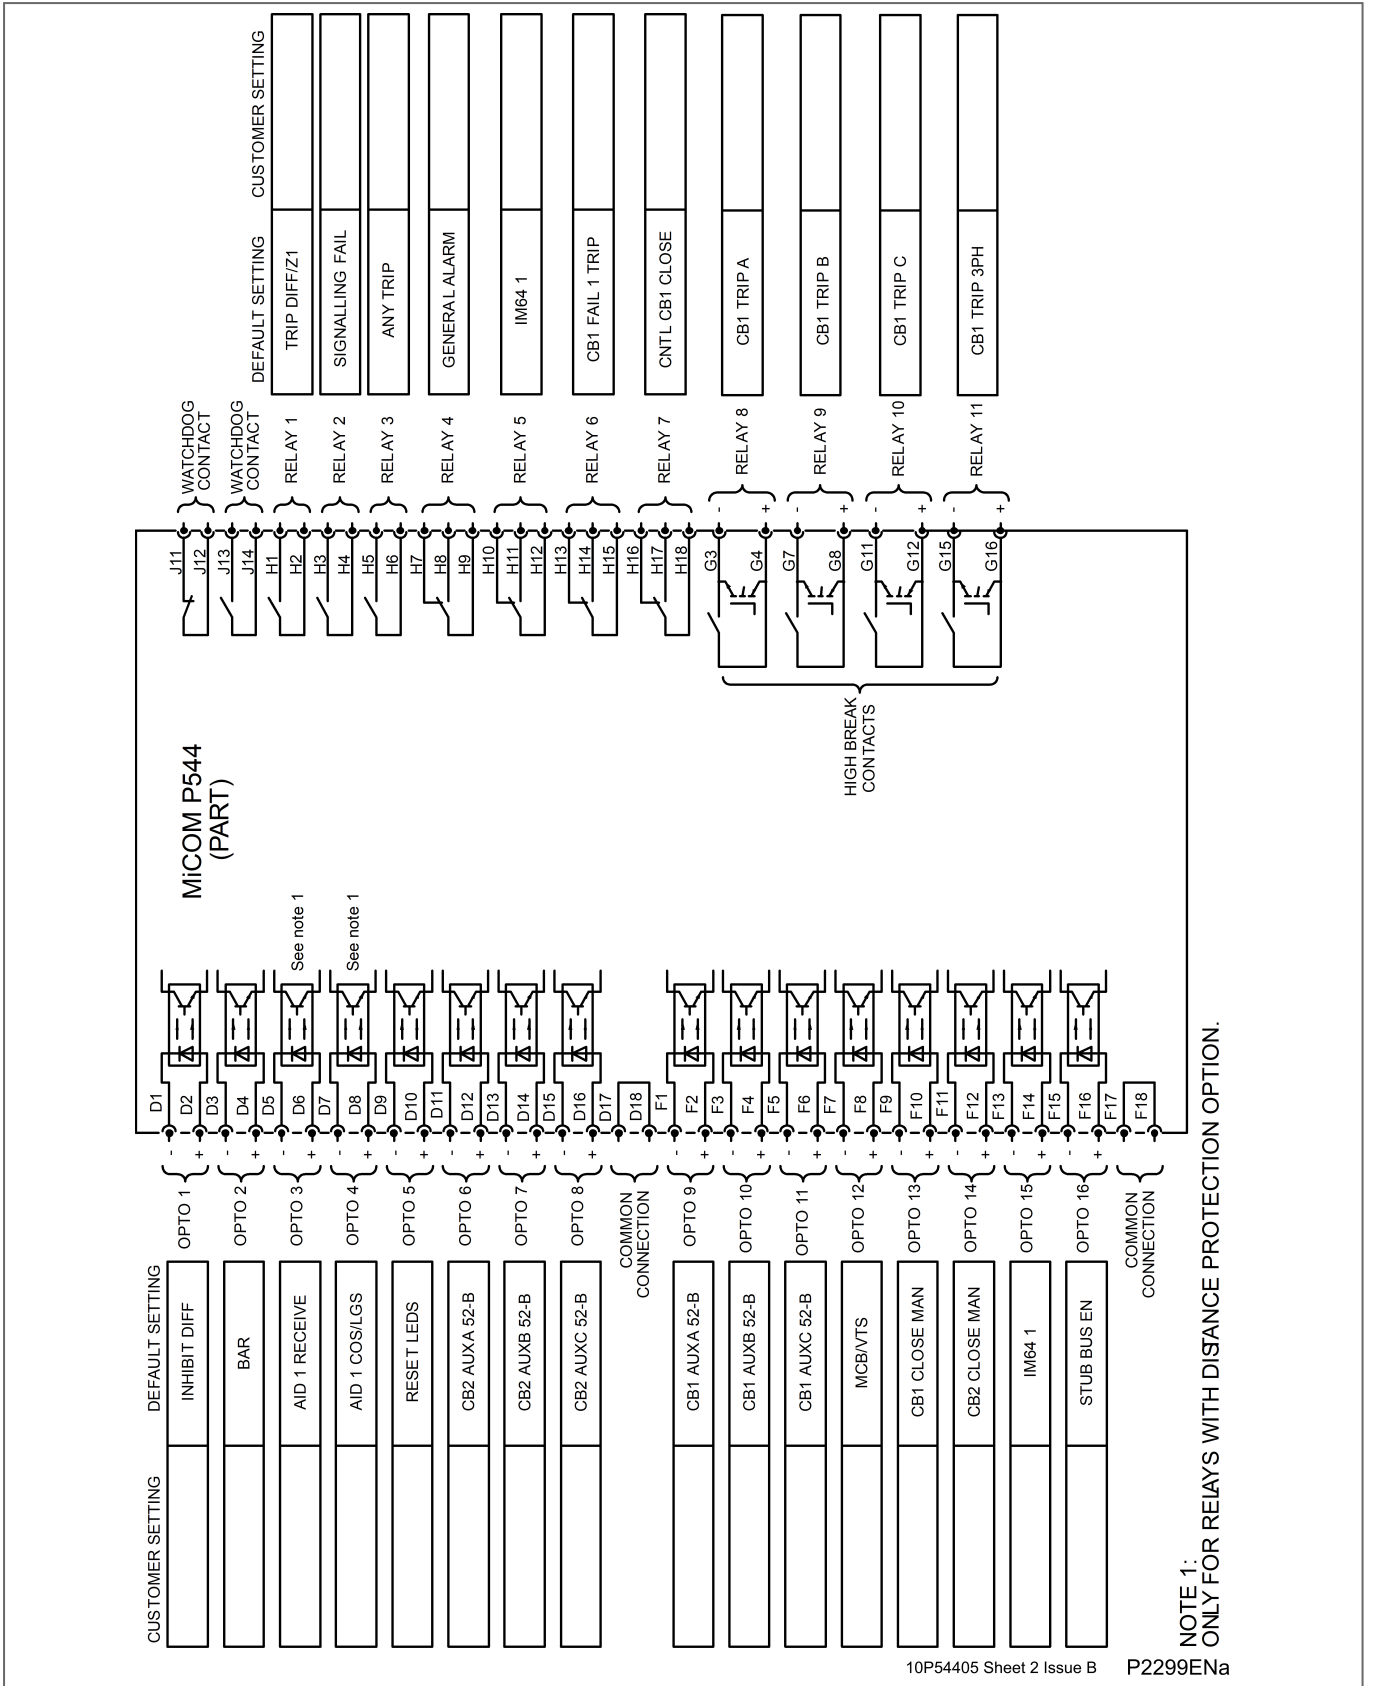

Figure 13 - P544 - 16 inputs/outputs default mapping - 7 standard and 4 high-break outputs
- Figure 13 - P544 - 16 inputs/outputs default mapping - 7 standard and 4 high-break outputs